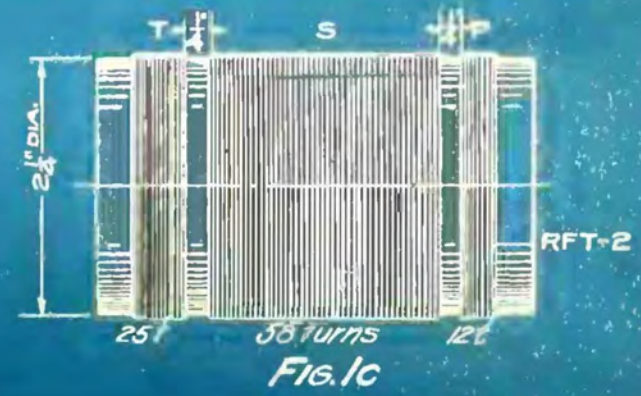

Fig. 1c
The output of the first tube passes through the primary (P) of the special transformer (RFT-2) which transfers the radio frequency current to the detector tube (T2). This coil (P) is located about 1-4 inch from the end of the secondary coil (S), and at the other end of (S) is the tickler coil (T) provided for regeneration in the detector stage. All three coils are in fixed relation on the same tube, and the detector circuit is tuned to wavelength by the variable condenser (C2) connected across the secondary coil (S). The tickler (T) has about 25 turns, the secondary (S) has 58 turns and the primary (P) is a 12 turn coil. The general details of this coil or transformer are shown by Fig. 1C, but it may be found necessary to give a few more or less turns on (T) until the proper regeneration is obtained with the vernier rheostat (R2) turned to the "half-on" position.